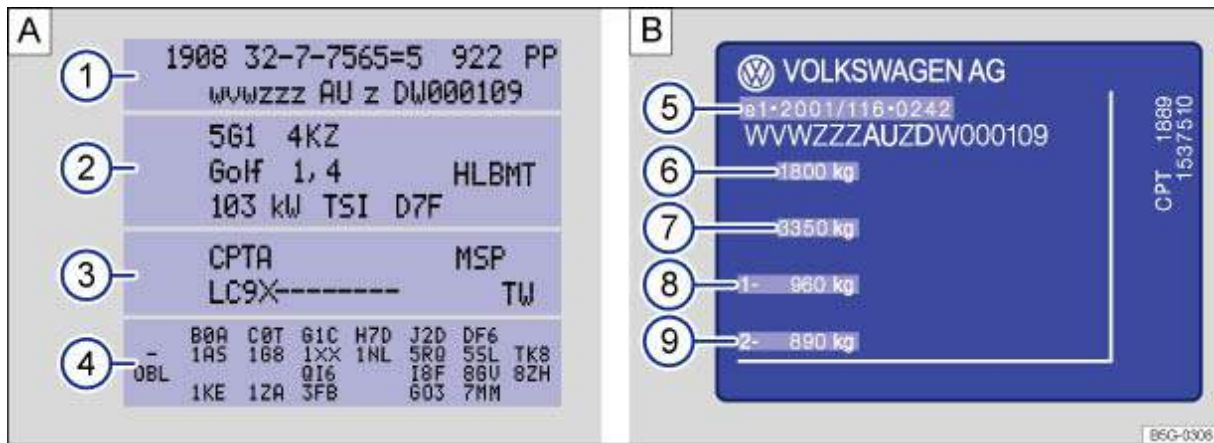

Fig. 19 A: vehicle data sticker: example shows a vehicle with engine code CPTA ③. B: type plate
The vehicle data sticker → *Fig. 19 A* is in the spare wheel well area in the luggage compartment. It contains the following data:
- 3 Engine and gearbox code, paint number, interior equipment. In the example, the engine code is CPTA → *Fig. 19*.
The type plate → *Fig. 19 B* can be seen on the lower part of the door pillar when the door is open. Vehicles for certain export countries do not have a type plate.